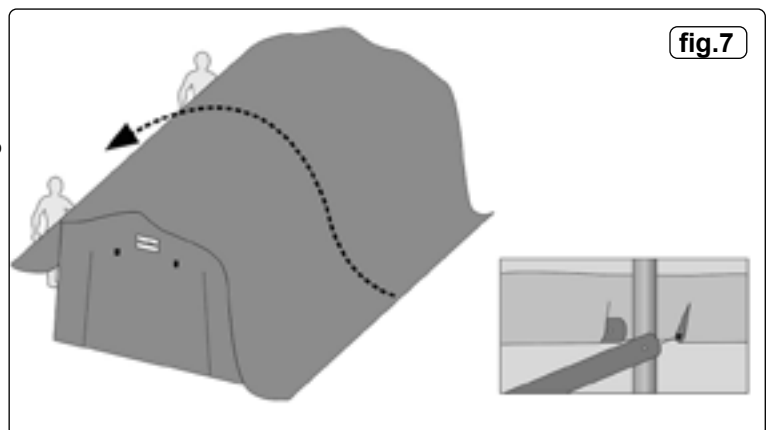
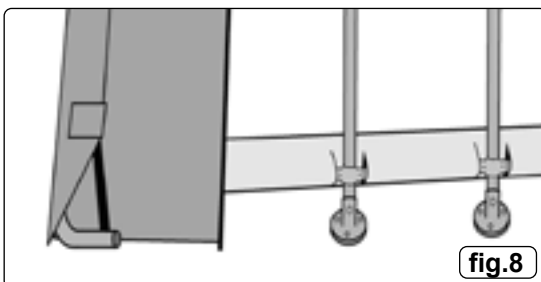

fig.7
fig.8
**5.4. TOP COVER (fig.7, fig.8)**
Secure all four top cover corners to the outside of the corner legs using the hook on the ratchet (item 21, fig.8).